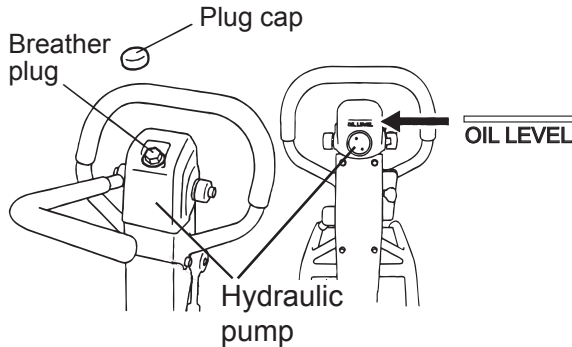

Figure 25. Removing Plug/Breather Cap
1. With the handle in vertical position, remove the plug cap from the hydraulic pump (Figure 25).
8. Pour hydraulic oil (550 cc) to the hydraulic pump breather plug attachment hole (Figure 25).